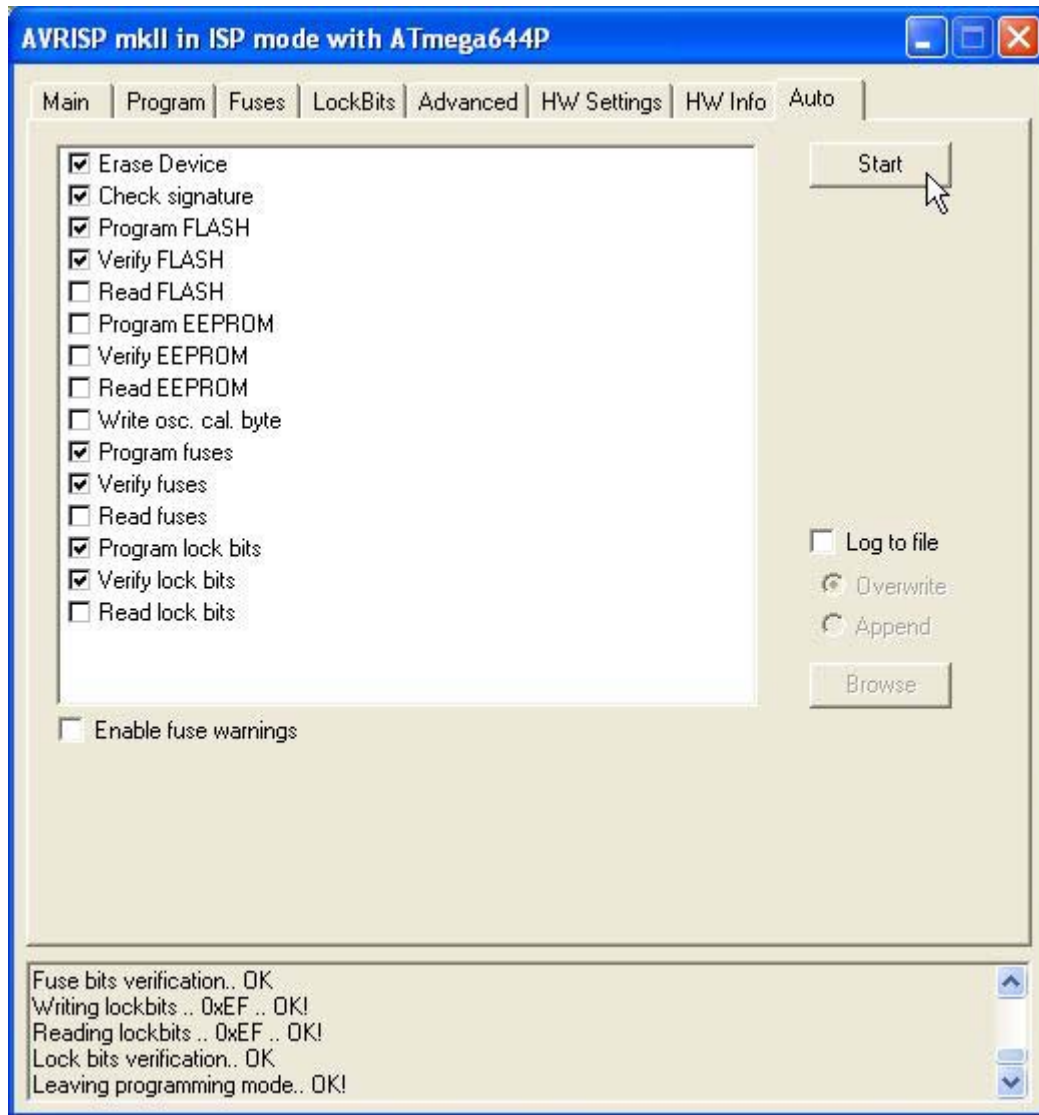

FIGURE D9: ISP PROGRAMMING WITH AVRISP MK II
- m) In the window Auto please select the operation to do for the ISP programming with **AVRISP mk II**, in other words delete the device, program and verify the protection bits. At this point it is very important to remember that by proceeding with the ISP programming, all the previous content of the FLASH will be lost for good and even the AVR Bootloader grifo(r), supplied with the Mini Module. Start the programming by keeping the Start button and check that in the lower part of the window all the operations keep going regularly, in other words that they are supported by the OK prompt, as it is shown in the figure D9. During the programming the status LED of the **AVRISP mk II** turns into red and at the end, if any error occurred, it turns into green again.
- n) In the window Auto please select the operation to do for the ISP programming with **JTAGICE mk II**, in other words delete the device, program and verify the protection bits. At this point it is very important to remember that by proceeding with the ISP programming, all the previous content of the FLASH will be lost for good and even the AVR Bootloader **grifo(r)**, supplied with the Mini Module. Start the programming by keeping the Start button and check that in the lower part of the window all the operations keep going regularly, in other words that they are supported by the *OK* prompt, as it is shown in the figure D9. During the programming the status LED of the **JTAGICE mk II** turns into green and at the end, if any error occurred, it turns off.